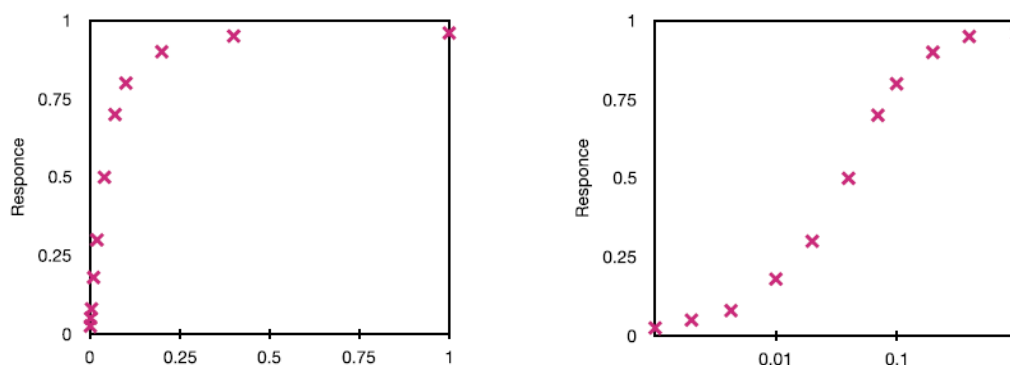

Figure 1: Sandwich assay calibration curves in linear and logarithmic scales.
A) Immunometric assays, also known as sandwich ELISAs, use two antibodies specific to the antigen to capture or "sandwich" antigens in the well for detection. Immunometric assays exhibit a direct correlation between antigen concentration and substrate response. The calibration curve is shown in Figure 1.